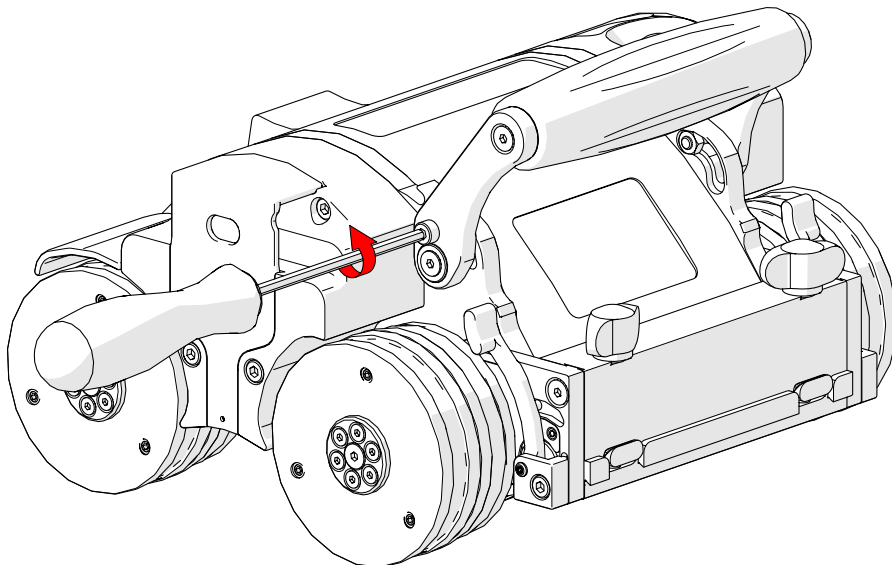

Fig. 74 - Unscrew handle lock screw
1. To lower the handle, use the supplied 3 mm driver to loosen the handle lock screws on either side of the handle (Fig. 74).